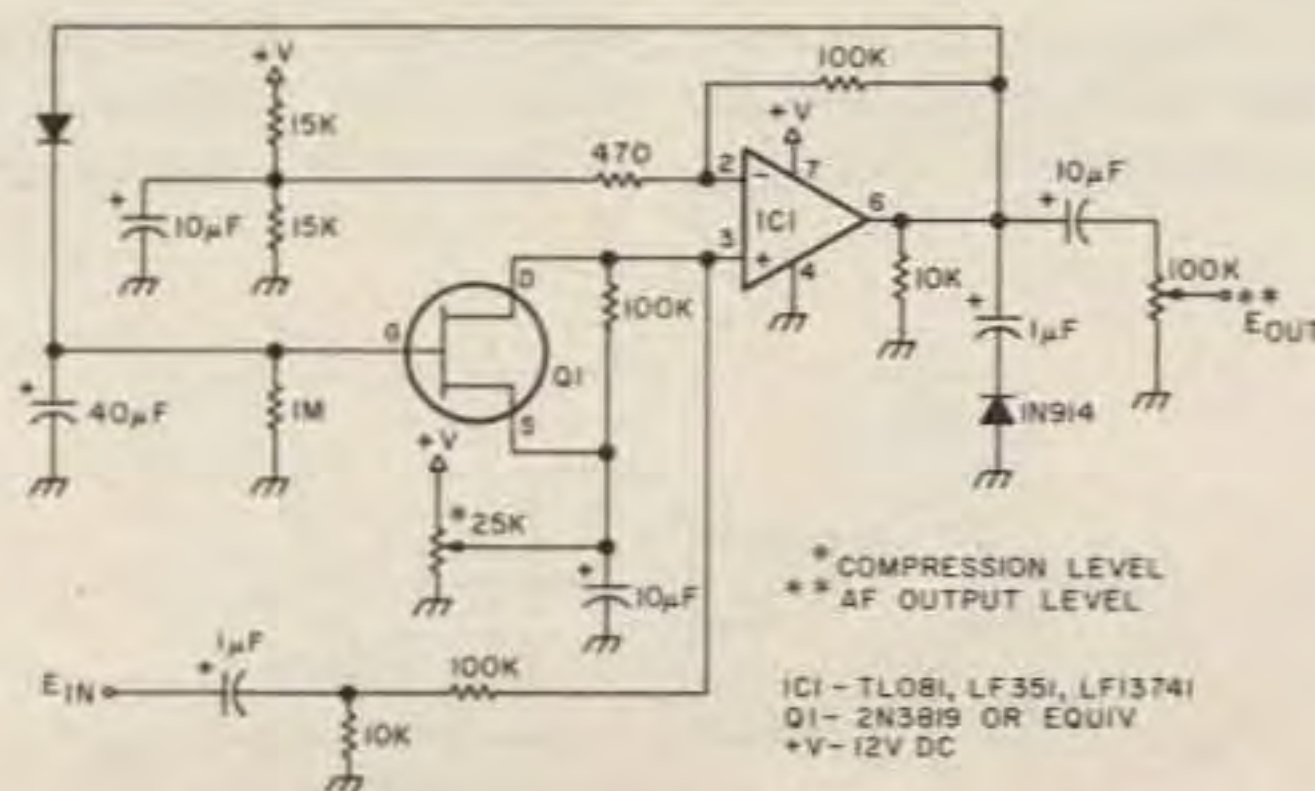
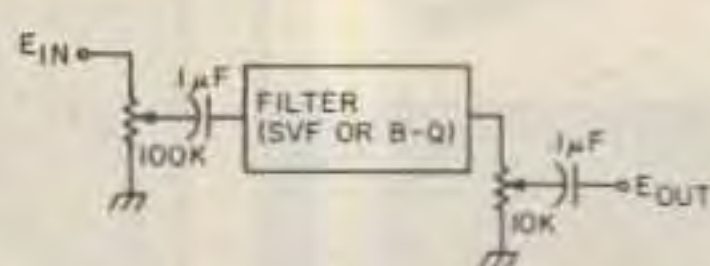

Fig. 4. A limiter/compressor for post-filter amplifying.
Fig. 10. Filter input- and output-level controls.
overcome the gain change of the B-Q filter by making the Q resistor, R4, variable, or by following the filter with a limiting amplifier such as the one in Fig. 4. This is the W4MLE variable-compression version of the N6WA Audio Elixir. (See 73 for September, 1979, p. 116, and November, 1982, p. 32.) Until OTAs become more common, there is no way to solve the multiple-pot problem of cascaded SVFs; however, for most work on CW, a single-section, moderate-Q filter requiring just one dual pot will do wonders. A Q of 20 theoretically yields a half-power bandwidth of just 30 Hz at 600-Hz center frequency. Even allowing for low-precision components, we do not need excessively high Q filters to enhance CW. In practice, design Qs in the range of 15 to 20 will yield -6 dB (half-voltage) bandwidths in the 100-to-120-Hz range for a 600-Hz center frequency.
**Step 12.** Consider the gain. This step does not require special calculations, but it does bring the matter of gain to your attention. For the -SVF design, gain will equal Q. If you design a fixed-Q filter, you can accommodate the filter gain with preceding and succeeding level controls, as shown in Fig. 10. Set the input-level control so that the strongest signal will not drive the filter
If the filter has a variable-Q control, then its gain will also vary. To avoid the need for constant volume-control adjustments, the compression amplifier shown in Fig. 4 should follow the filter and precede the output amplifier. With the values shown for the compression circuit, a normal CW signal will leave the speaker quiet between dots and dashes. The circuit needs no input-setting pot, and the output-level control serves the same function as the filter-output control in Fig. 10.